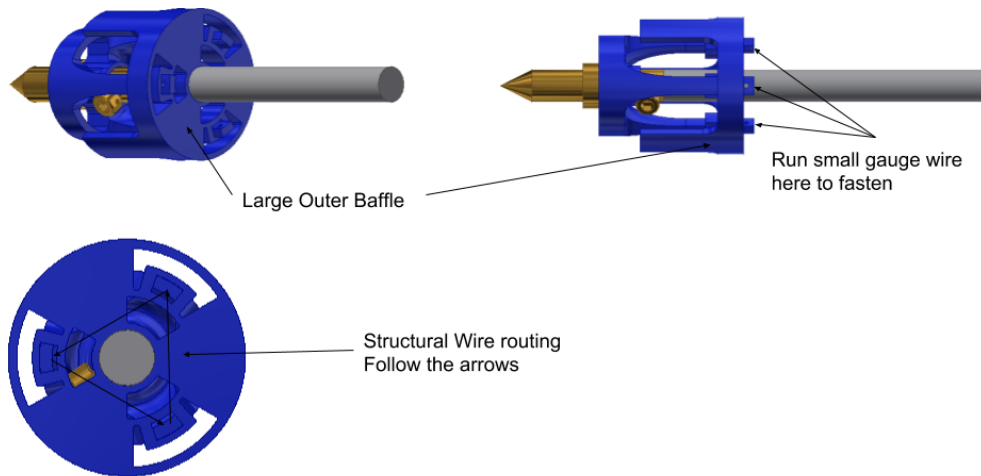

Figure 14
- Refer to Figure 14 for appropriate assembly of the securing wire.